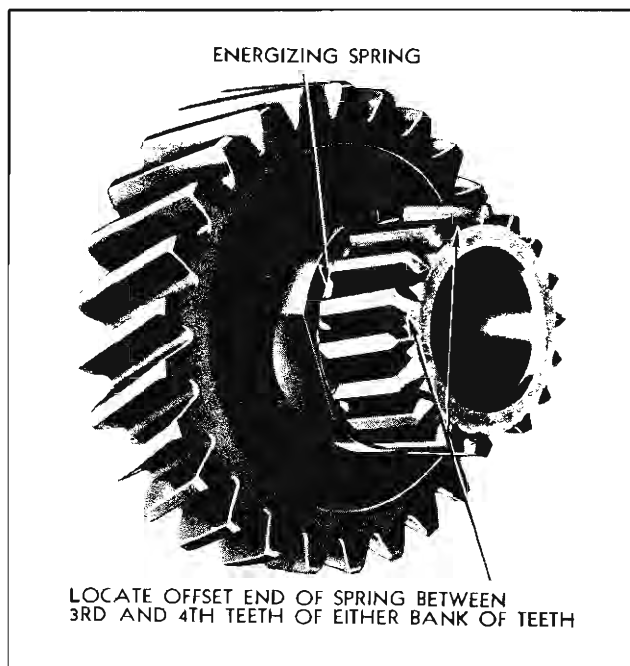

Fig. 7-31 Position of Energizing Spring
1. One of the ends of each spring is slightly offset. Each spring must be assembled in its groove in clutch gear and second speed gear with offset or locking end between the third and fourth teeth of either of the two banks of teeth on these gears, thus keeping the spring from turning in its groove (Fig. 7-31).